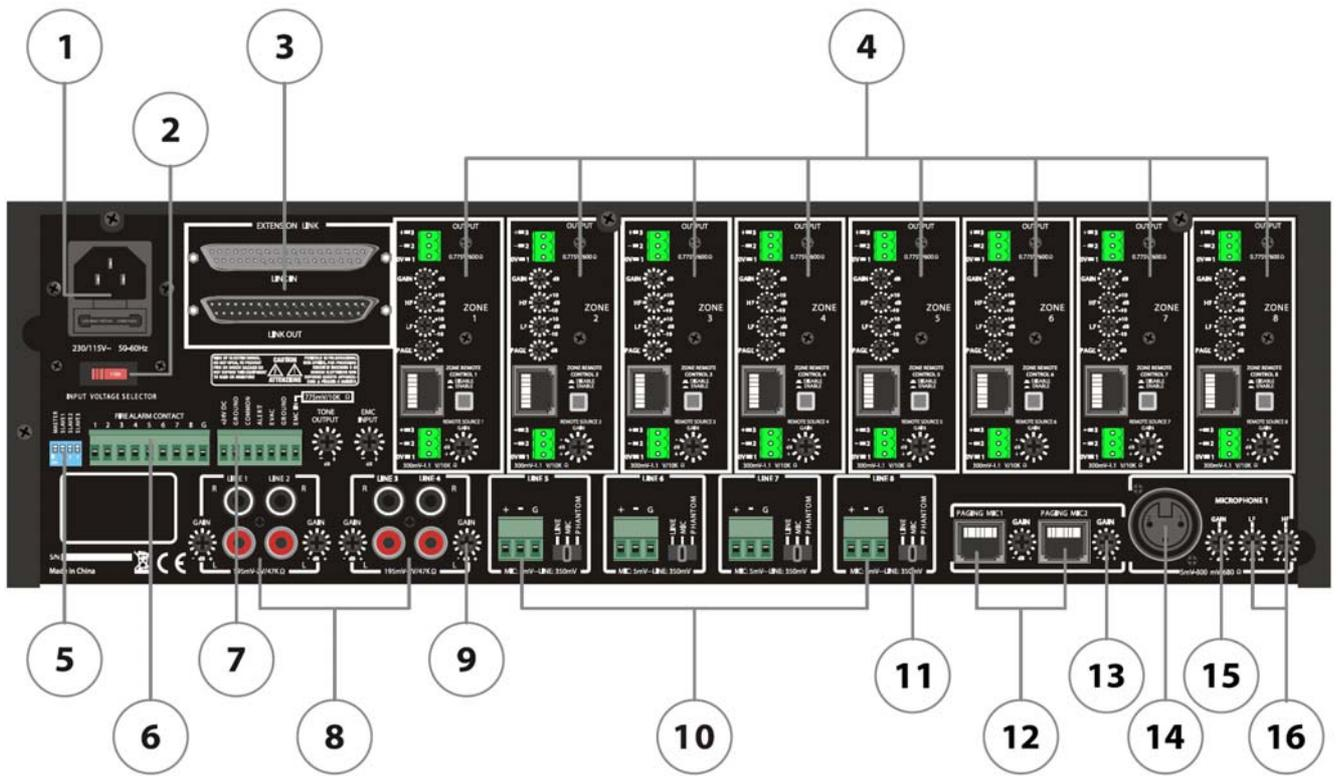

fig.2
If this LED is on, Microphone 1 has been given priority (fig. 2, ref. 14)
Gives priority to the Mic 1 Input (fig. 2, ref. 14) in the corresponding zone.
Adjusts the level of the microphone connected to the MIC1 input (fig. 2, ref. 14)
Gives priority to Mic1 (fig. 2, ref. 14) on all the zones simultaneously.
Note: if connecting with a 117 V AC 50/60 Hz mains, remember to move the mains selector to the 117 V AC position (fig. 2, ref. 2)
In order to configure the system so that the ALERT siren will sound at the closure of the FIRE ALARM CONTACT, place a jumper between the ALERT and COMMON contacts on the terminal block (fig. 2, ref. 7).
In order to configure the system so that the EVAC siren will sound at the closure of the FIRE ALARM CONTACT, place a jumper between the EVAC and COMMON contacts on the terminal block (fig. 2, ref. 7).